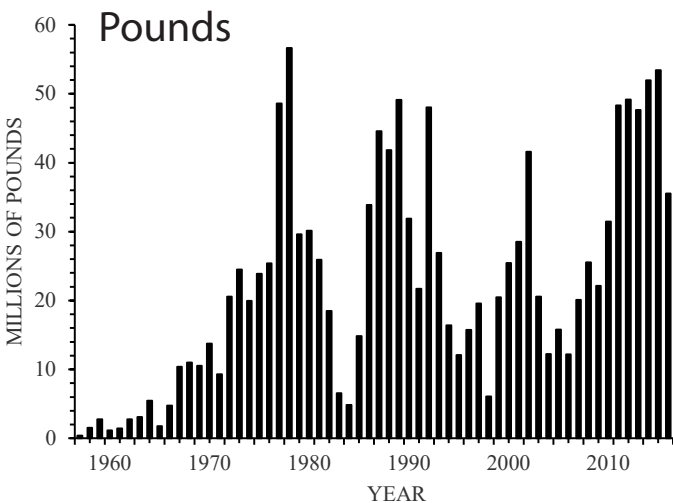
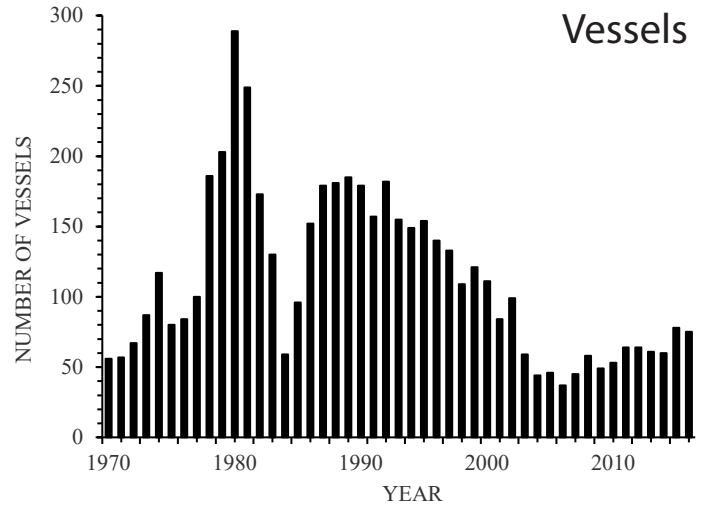
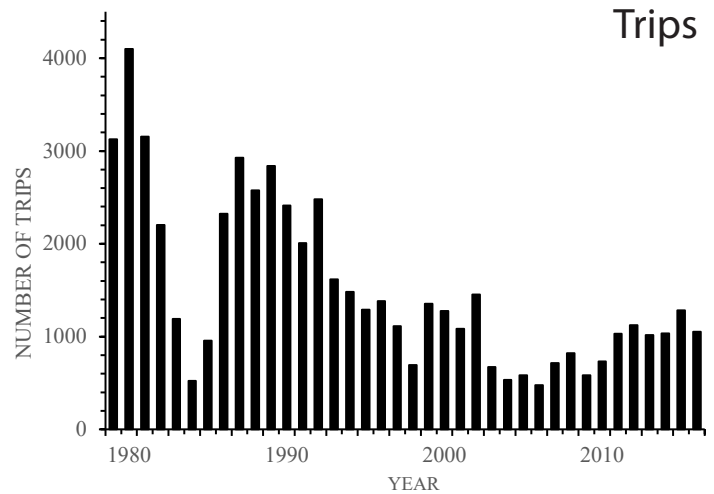
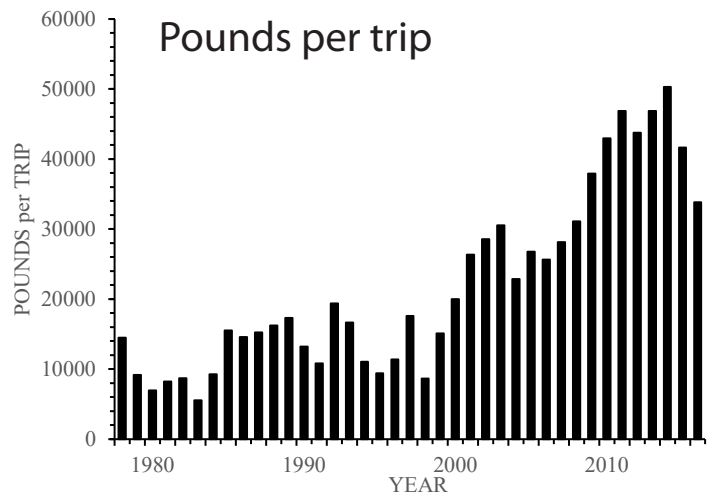

Figure 1. Annual Oregon pink shrimp landings by year (millions of pounds): 1957-2016
Figure 2. Annual number of vessels landing pink shrimp into Oregon: 1970-2016
Figure 3. Annual number of trips landing pink shrimp into Oregon: 1979-2016
Figure 4. Annual average catch-per-trip (pounds) for shrimp vessels landing into Oregon: 1978-2016
35.5 million pounds of pink shrimp were landed into Oregon in 2016, the streak of five consecutive ~50 million pound seasons came to a predictable end (Figure 1). While the number of vessels (Figure 2) and trips (Figure 3) remained similar to recent years, pounds per trip reduced (Figure 4). 2016 landings are decreased from recent history, but beat the 20 year average (29.4 million pounds from 1996-2015).